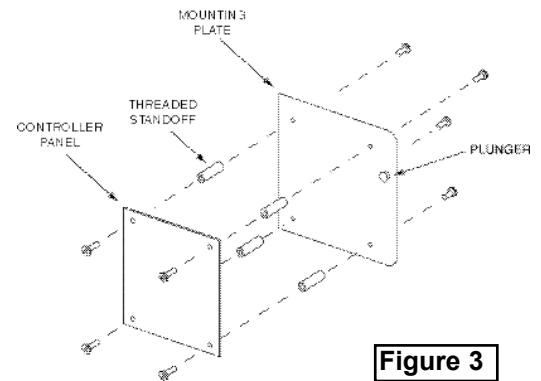

Figure 3
- 3) Position the controller panel (with standoffs mounted in place) over the mounting plate and insert screws from the "backside" of the plate to secure the controller panel to the mounting plate. Refer to **Figure 3**.